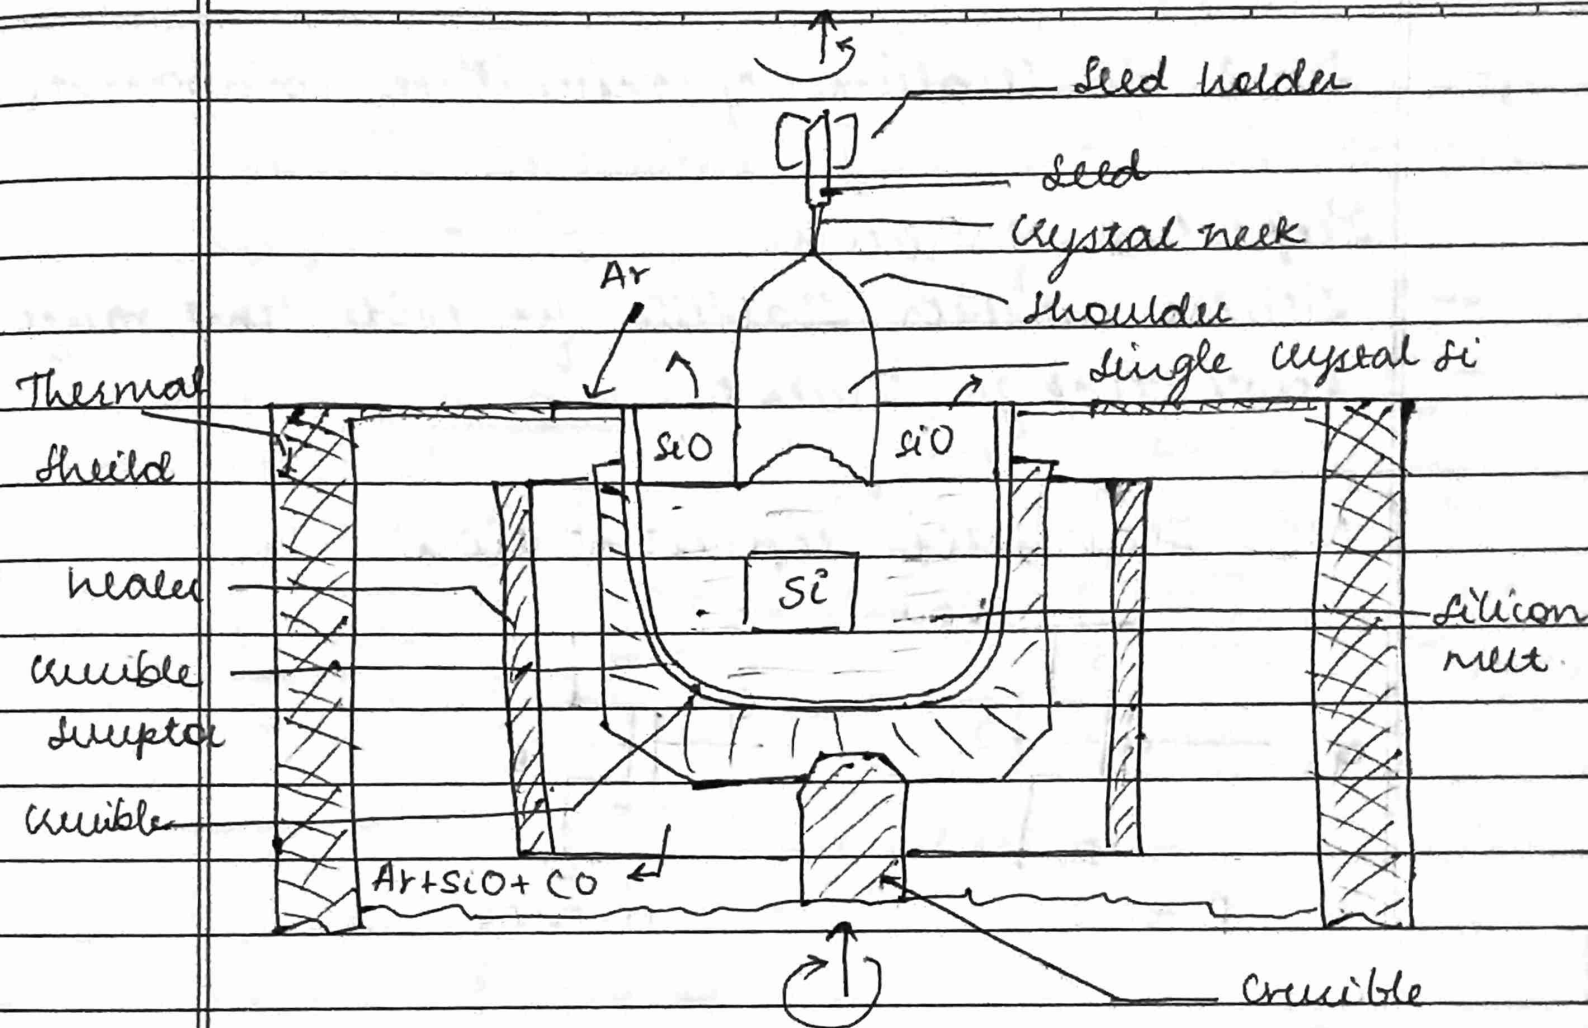

Fig. 1. Beginning of crystal growth.
- $\rightarrow$ CZ method. (Fig 1.) [Sand to Silicon]